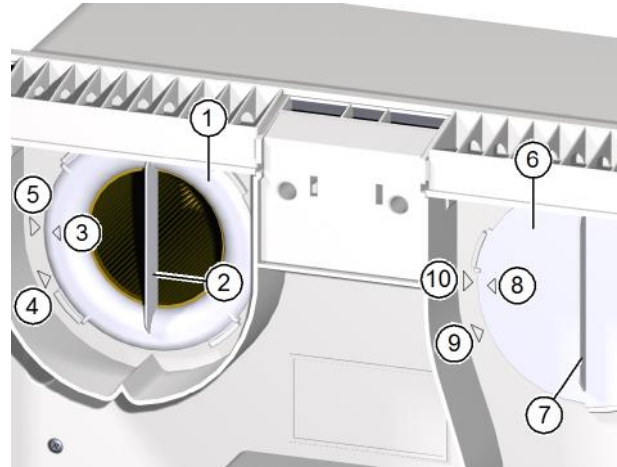

Fig. 14: Remove filter
- ▶ Turn the filter ring (item 1 in Fig. 14) using the hand grip (item 2 in Fig. 14) anti-clockwise until the arrow on the filter ring (item 3 in Fig. 14) lines up with the arrow at the removal position (item 4 in Fig. 14).
- ▶ Turn the filter cover (item 6 in Fig. 14) using the hand grip (item 7 in Fig. 14) anti-clockwise until the arrow (item 8 in Fig. 14) on the filter cover lines up with the arrow at the removal position (item 9 in Fig. 14).
- ▶ Make sure that the filter ring is oriented so that the arrow on the filter ring (item 3 in Fig. 14 on page 20) lines up with the arrow for the removal position (item 4 in Fig. 14 on page 20).
- ▶ Turn the filter ring clockwise until the arrow on the filter ring (item 3 in Fig. 14 on page 20) lines up with the arrow for the locking position (item 5 in Fig. 14 on page 20).
- ▶ Check the position of the filter ring and filter cover. The hand grips must be vertical and the arrows on the filter ring and filter cover must line up with the arrows for the locking position (see Fig. 14 on page 20).